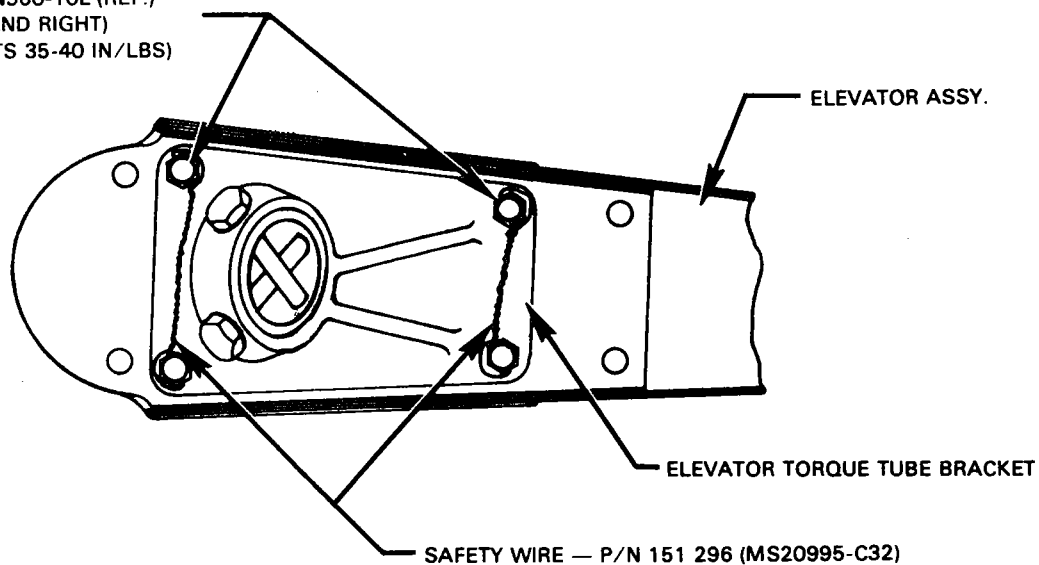

FIGURE 1
5. If all eight (8) anchor nuts prove to be self-locking, torque bolts to 35-40 inch-pounds, replace tail fairing, and make appropriate logbook entry of compliance with this service release.
6. If one (1) or more of the anchor nuts are not self-locking, then all eight (8) of the affected bolts must be replaced as follows:
- a. Refer to attached Sketch, Figure 1.
- b. Replace the eight (8) bolts with drilled head AN3H-5A bolts (Piper Part Number 401 267). Use existing AN960-10L washers.
- d. Safety wire the forward two (2) bolts and the aft two (2) bolts together with MS20995-C32 Safety Wire (Piper Part Number 151 296).